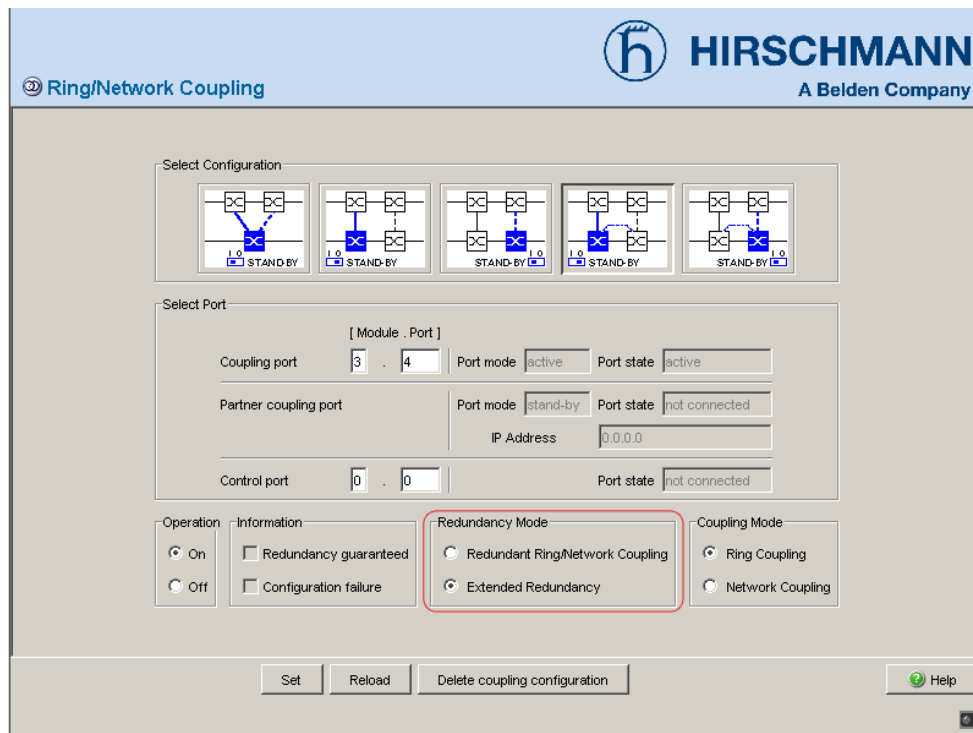

Figure 24: Selecting the redundancy mode
- ☐ In the “Redundancy Mode” frame, select (see fig. 24)